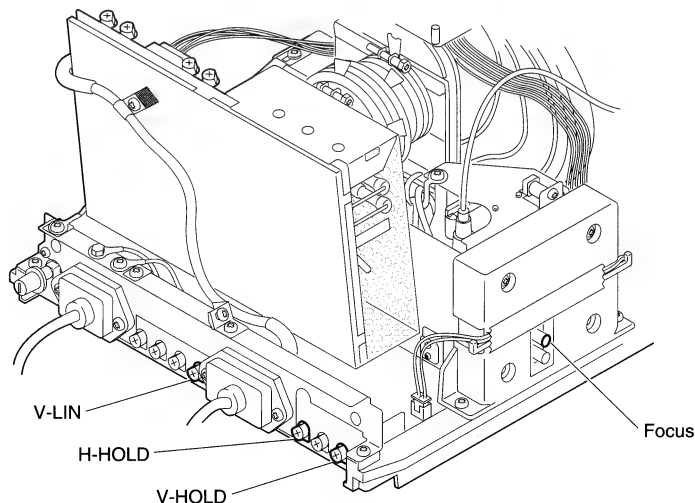

Figure 5 Linearity, Hold, and Focus Adjustment Controls
2. FIGURE 5. Turn the V-LIN control (VR402) so that the distance between the horizontal lines is the same at the top and bottom of the screen.
2. FIGURE 5. Turn the V-HOLD control (VR401) until the raster stabilizes. To check the adjustment, switch the monitor off and then on. If the raster stabilizes immediately, the V-HOLD is correctly set.
- FIGURE 5. Turn the H-HOLD control (VR502) until the raster stabilizes. To check the adjustment, switch the monitor off and then on. If the raster stabilizes immediately, the H-HOLD is correctly set.
2. FIGURE 5. Turn the FOCUS control on the flyback transformer until the focus test pattern is as clear as possible.